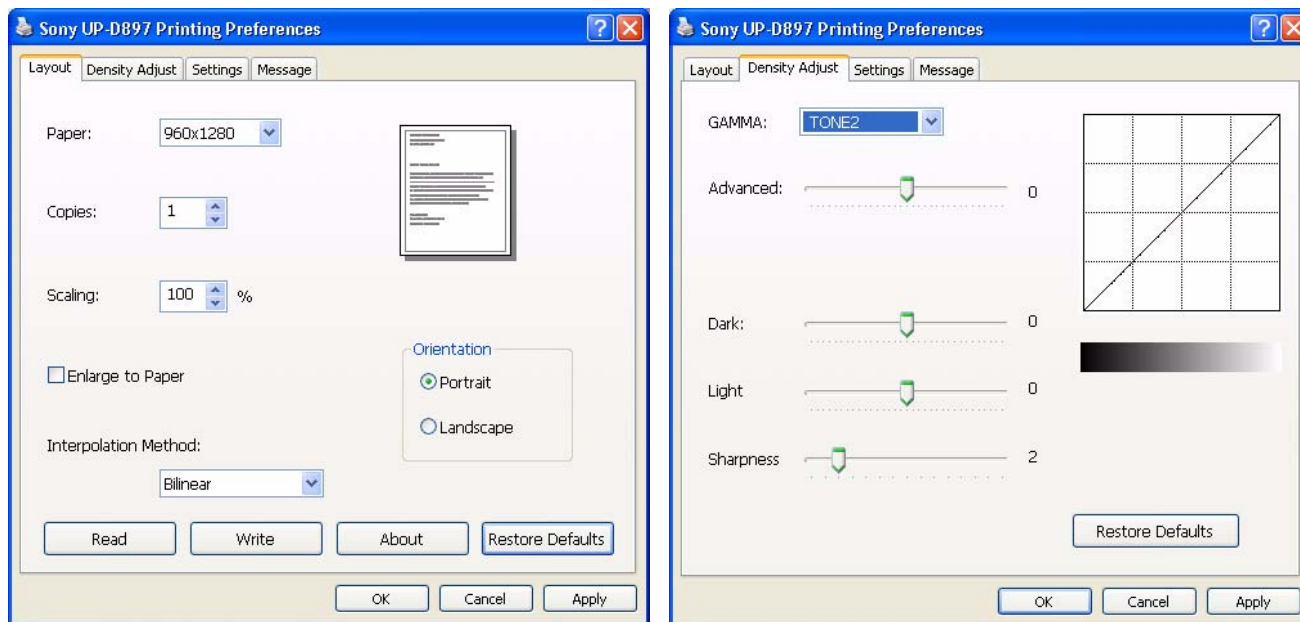

Figure 3-16 Layout + Density Adjust page
- 2.) Select the LAYOUT page (see: Figure 3-16 below) and select:
- 3.) Select the DENSITY ADJUST page (see: Figure 3-16 above) and select: